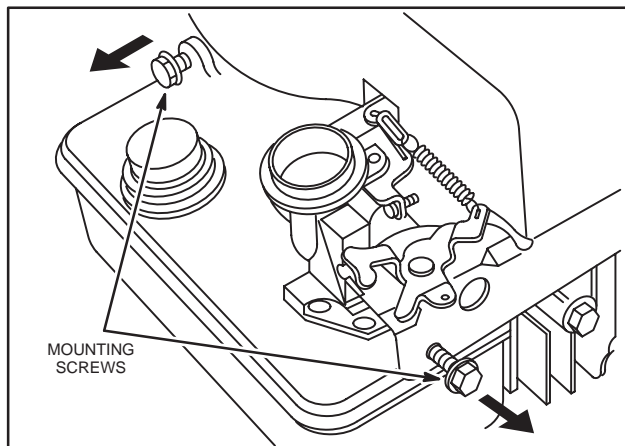

Fig. 220 – REMOVING MOUNTING SCREWS
1. Remove carburetor and fuel tank assembly mounting bolts, Fig. 220.